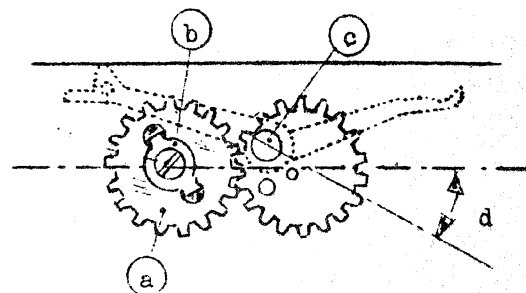

Fig. 4
1.3 Fastening the forward motion claw (fig. 4)